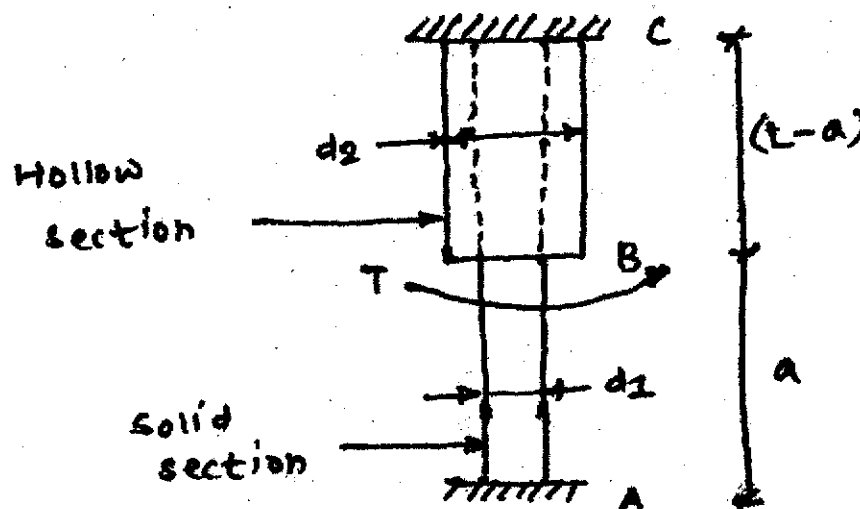

Fig. 13
9. (a) Bar ABC fixed at both ends consist of solid circular portion AB and hollow circular portion BC as shown in Fig. 13. Derive (a/L) ratio for which reactive torque at A and C are of equal magnitude. [4]